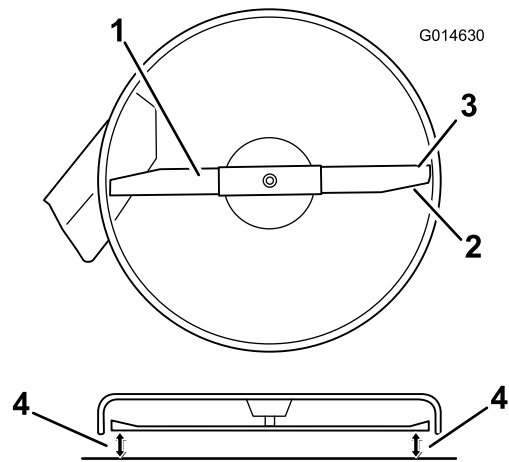

Figure 49
- Carefully rotate the blade so it is side to side (Figure 49).
- Measure between the outside cutting edges and the flat surface (Figure 49). If both measurements are not within 3/16 inch (5 mm), an adjustment is required; continue with this procedure.